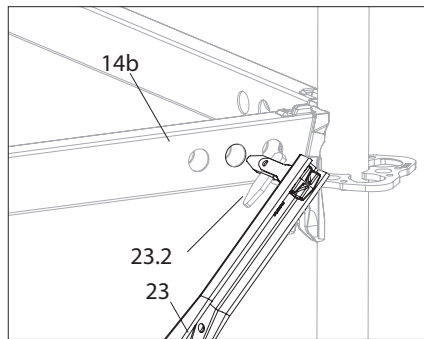

Fig. A4.07c
3. Straighten the tilt finger (23.2). (Fig. A4.07c)